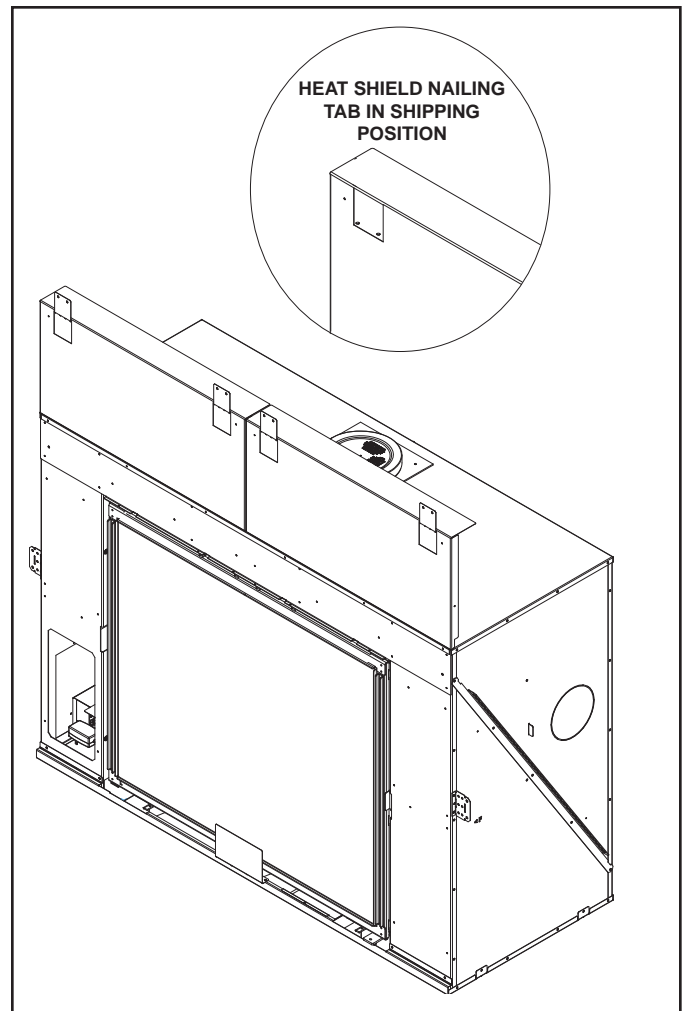

Figure 9.4. Heat Shields and Nailing Tabs in Installation Position
Nailing tabs are provided on the appliance and on the heat shields to secure the appliance to the framing members. See Figure 9.2 and Figure 9.4 for location of nailing tabs in shipping position.
- Bend the top header heat shields upward to position them vertically and bend out the two nailing tabs on the top of each header heat shield. Secure to framing. See Figure 9.4.